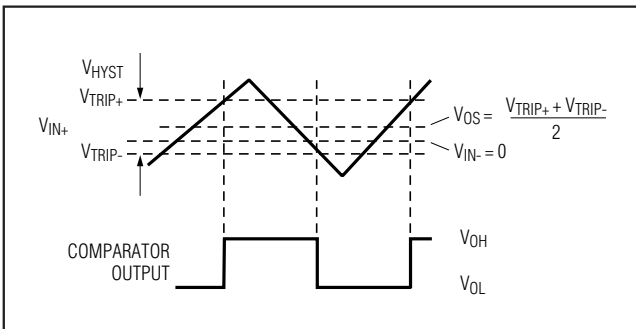

Figure 1. Input and Output Waveforms, Noninverting Input Varied
- Note 3:** V_{OS} is defined as the mean of trip points. The trip points are the extremities of the differential input voltage required to make the comparator output change state (Figure 1).
- Note 4:** The difference between the upper and lower trip points is equal to the width of the input-referred hysteresis zone (Figure 1).
- Note 5:** Propagation Delay is guaranteed by design. For low overdrive conditions, V_{TRIP} (Figure 1) is added to the overdrive.
High-speed comparators can oscillate in the linear operating region because of noise or undesired parasitic feedback. This tends to occur when the voltage on one input is equal to or very close to the voltage on the other input. The MAX976/MAX978/MAX998 have internal hysteresis to counter parasitic effects and noise. The hysteresis in a comparator creates two trip points: one for the rising input voltage and one for the falling input voltage (Figure 1). The difference between the trip points is the hysteresis. When the comparator input voltages are equal, the hysteresis effectively causes one comparator input voltage to move quickly past the other, taking the input out of the region where oscillation occurs.
Figure 1 illustrates the case where IN- has a fixed voltage applied and IN+ is varied. If the inputs were reversed, the figure would be the same, except with an inverted output.